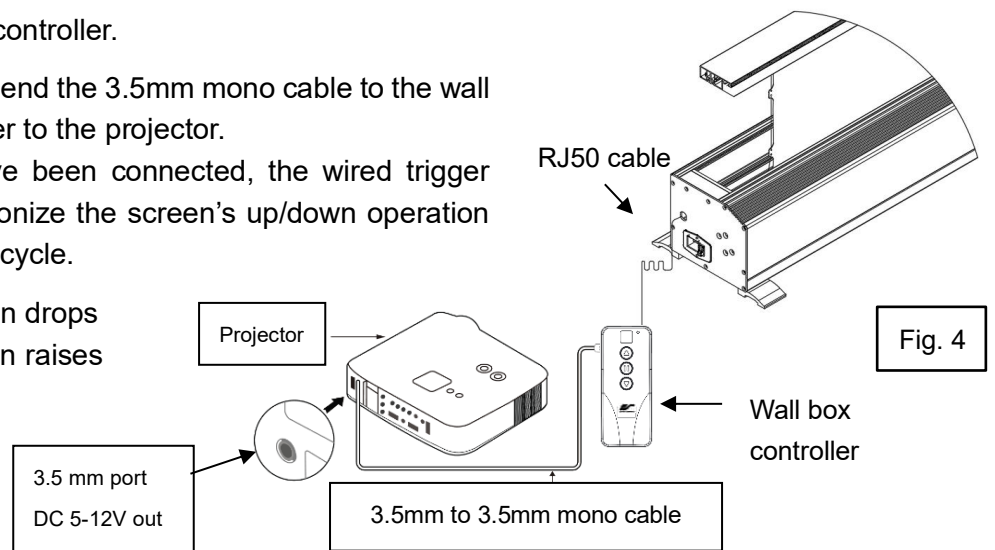

Fig. 4
4. Wired 5-12 volt trigger (Fig.4): Requires a 3.5mm to 3.5mm mono cable (**Not included**)